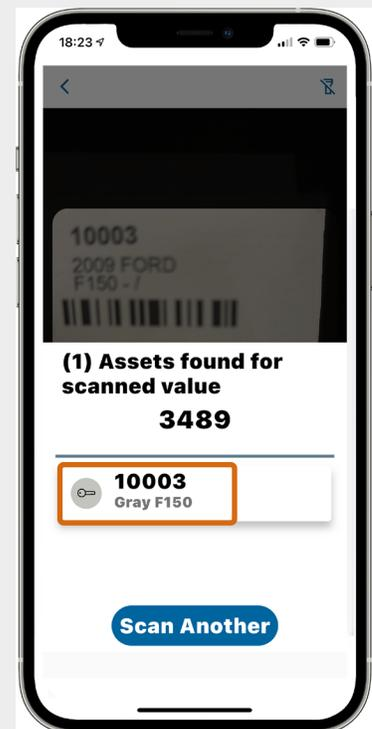

Fig. 125 – Assets found for scanned value notification with asset name indicated
5. On the **Assets found for scanned value** notification, tap the asset name, as shown in Fig. 125.